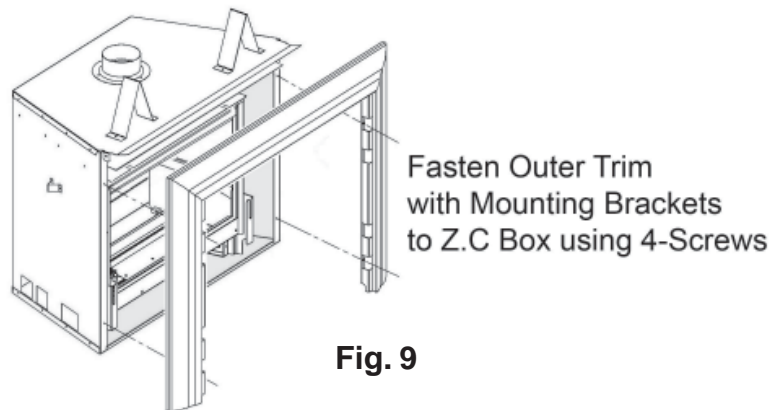

Fig. 9
2. Fasten the outer trim with the mounting brackets attached to the side flanges of zero clearance box using 2 screws each side. **See Fig. 9.**